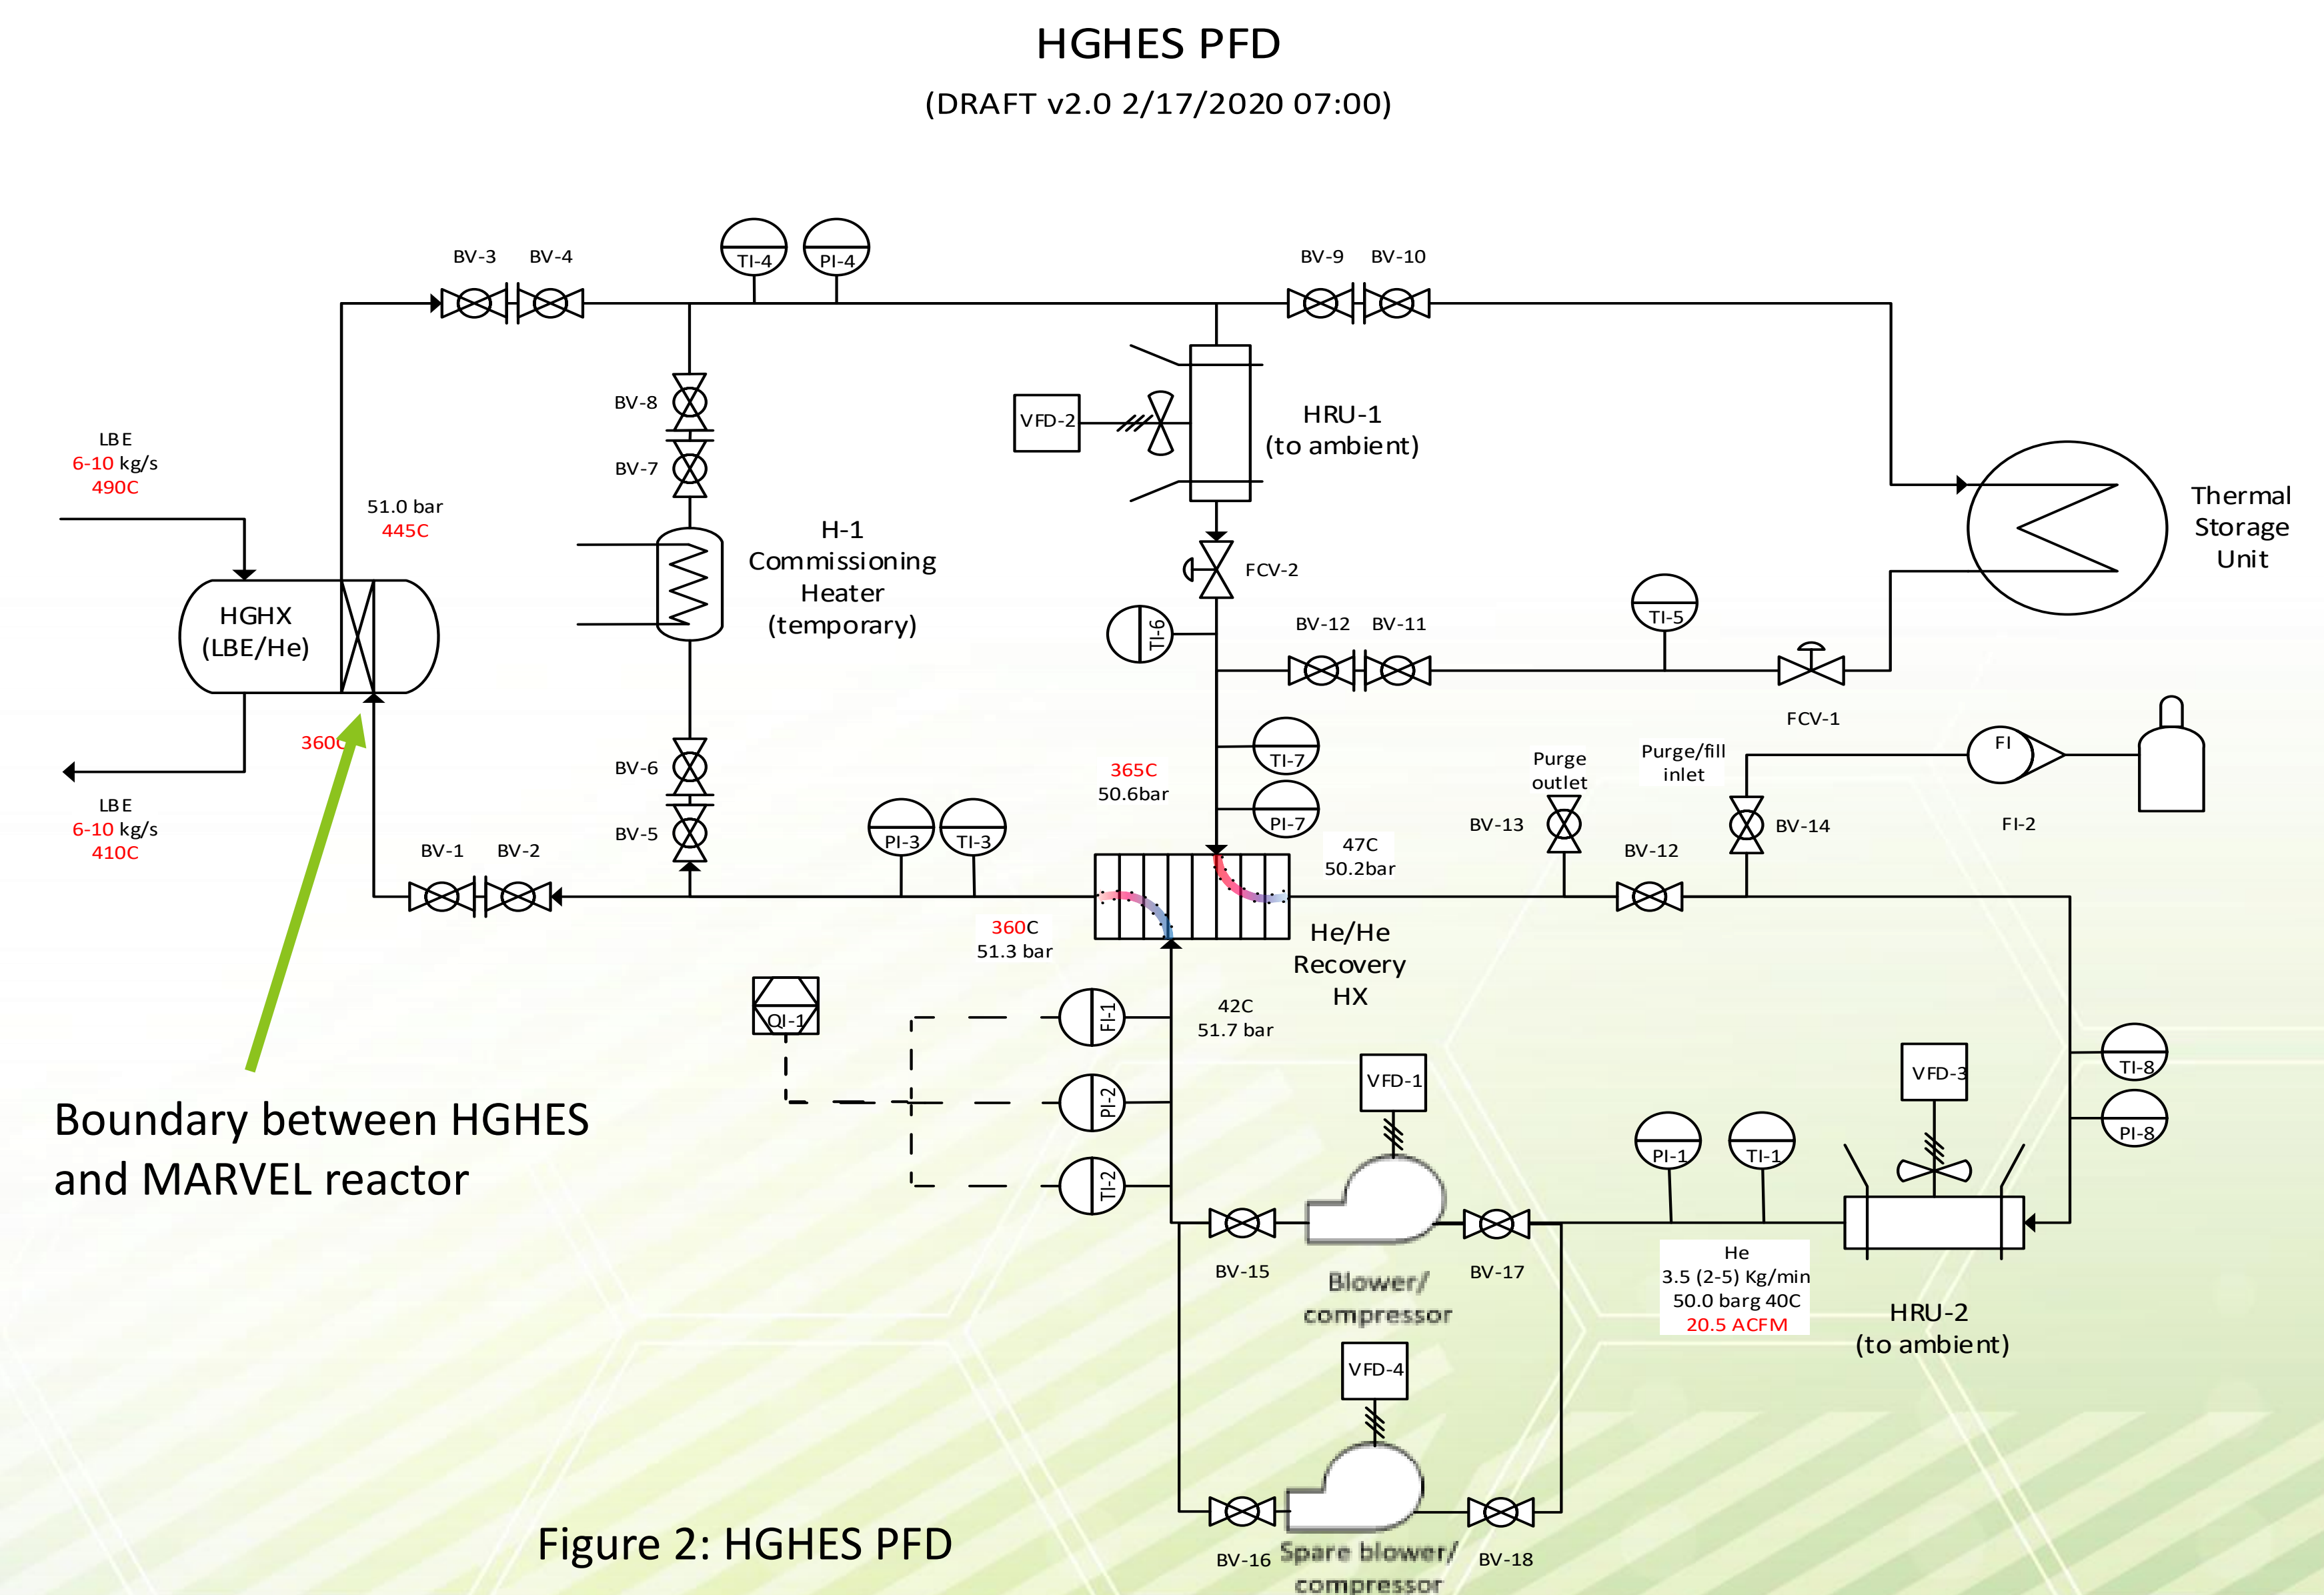

Figure 2: HGHEs PFD
- Shown in Figure 2, the system has two loops: a main thermal transport loop from the High-Grade Heat Exchanger (HGHE) to the TSU and a secondary blower loop to maintain the flow of the entire system.